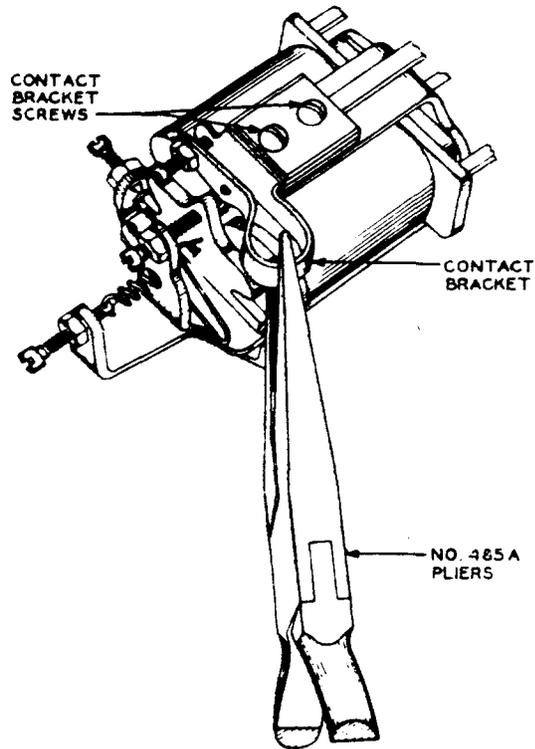

Fig. 7 - Method of Aligning Contacts Vertically
(2) If the contacts are out of line vertically, force the contact bracket slightly upward or downward as necessary using the No. 485A pliers as shown in Fig. 7. Then move the armature upward and downward to check that the contacts are in accordance with 2.08.